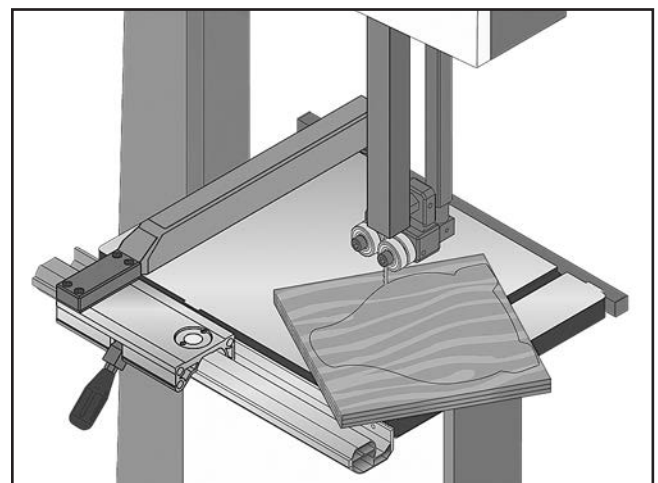

Figure 87. Example of a stacked cut setup.
5. Cut stack of pieces along your layout line as though you were cutting a single piece (see **Figure 87** for an example of a stacked cut setup).